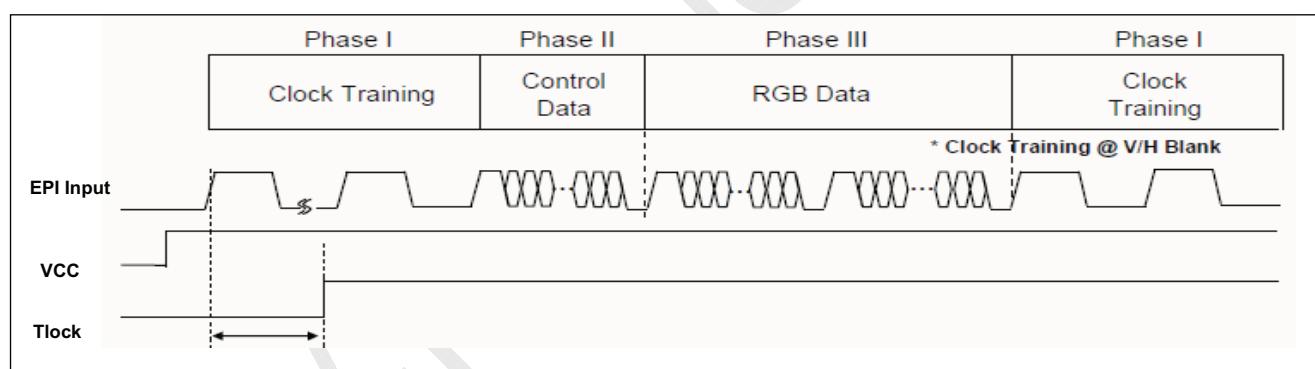

FIG 4. Power On to DLL Lock time
5. Viewing angle is the angle at which the contrast ratio is greater than 10. The angles are determined for the horizontal or x axis and the vertical or y axis with respect to the z axis which is normal to the LCD module surface. For more information, see the FIG. 4.